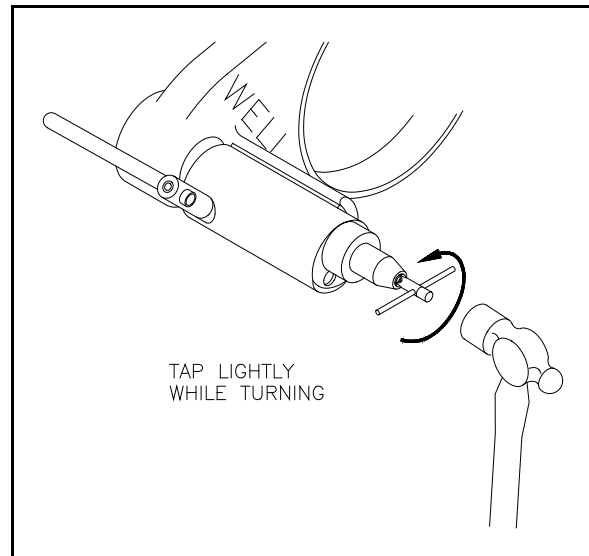

Figure 5.
- 6.4.3 Insert the collet wrench. Tap the end of the collet wrench **LIGHTLY** while turning the collet wrench counterclockwise. See Figure 5.